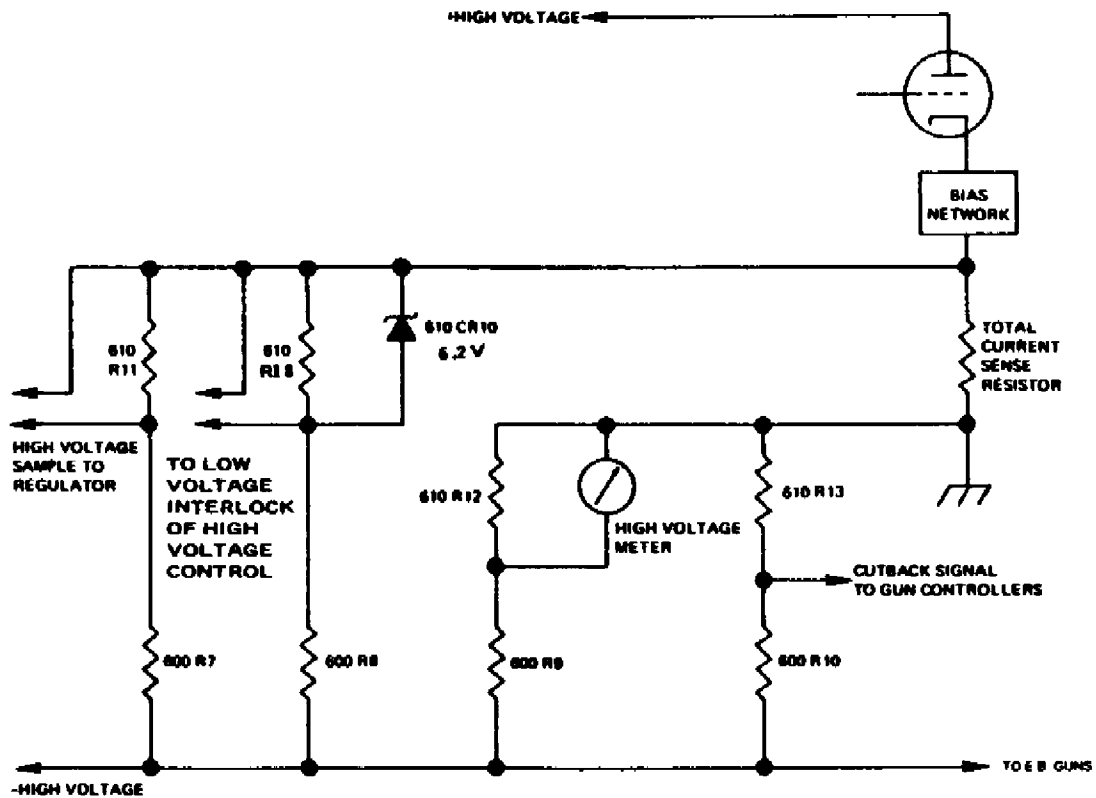

Figure 5-6. CV-8 A and B high voltage dividers (drawing 506-0445 sheet 1)
5.2.4 High Voltage Dividers (Figure 5-6)